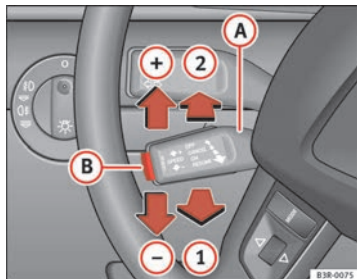

Fig. 151 Controls for the cruise control system
- Pull the lever **A** to position $\Rightarrow$ fig. 151 **1** to enable the system.
- Move the lever **A** up towards $\Rightarrow$ fig. 151 **+**.
- Move the lever **A** down towards $\Rightarrow$ fig. 151 **-**.
- You can increase the set speed in steps of 2 km/h by briefly pressing the lever **A** up towards $\Rightarrow$ fig. 151 **+**.
- You can decrease the set speed in steps of 2 km/h by briefly pressing the lever **A** down towards $\Rightarrow$ fig. 151 **-**.
If no speed was stored when the system was temporarily disabled, a new speed can be set as follows: drive at the desired cruising speed and briefly press button ⇒ page 179, fig. 151 (B) (SET).
- Move lever (A) ⇒ page 179, fig. 151 to position (2) (click stop engaged).